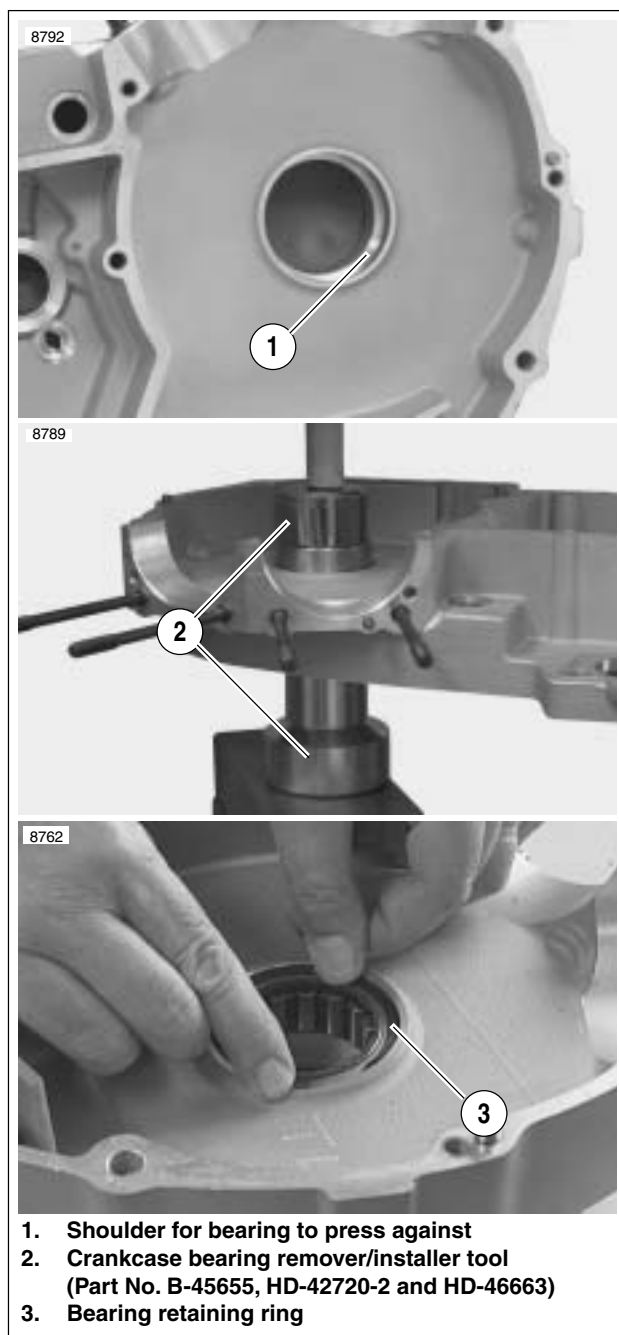

Figure 3-149. Left Main Bearing Installation
1. See Figure 3-149. Using CRANKCASE BEARING REMOVER/INSTALLER (Part No. B-45655, HD-42720-2 and HD-46663), install left main bearing into left crankcase half from the inside.